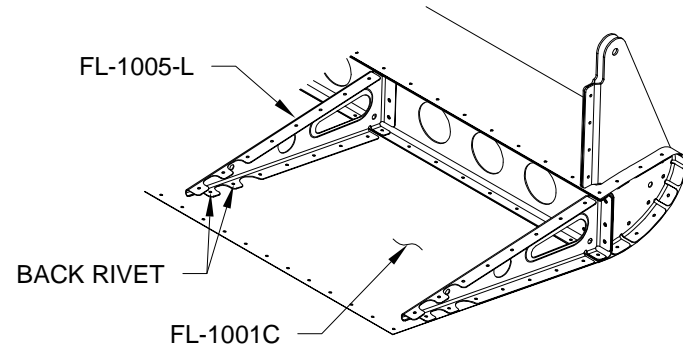

FIGURE 1: BACK RIVETING TOP SKIN
Step 1: Remove the structure from the cradles and lay it top side down on a flat plate, letting the nose rib clecos hang over the edge of the table. Back rivet the two aft most rivets in the top flange of the FL-1005 Main Ribs to the FL-1001C Top Skin as shown in Figure 1. (AN426AD3-3.5 Rivets, which were used to attach the forward portion of the ribs to the skins, have a tendency here to bend over when back riveting. Therefore, the shorter AN426AD3-3 rivets are used.)